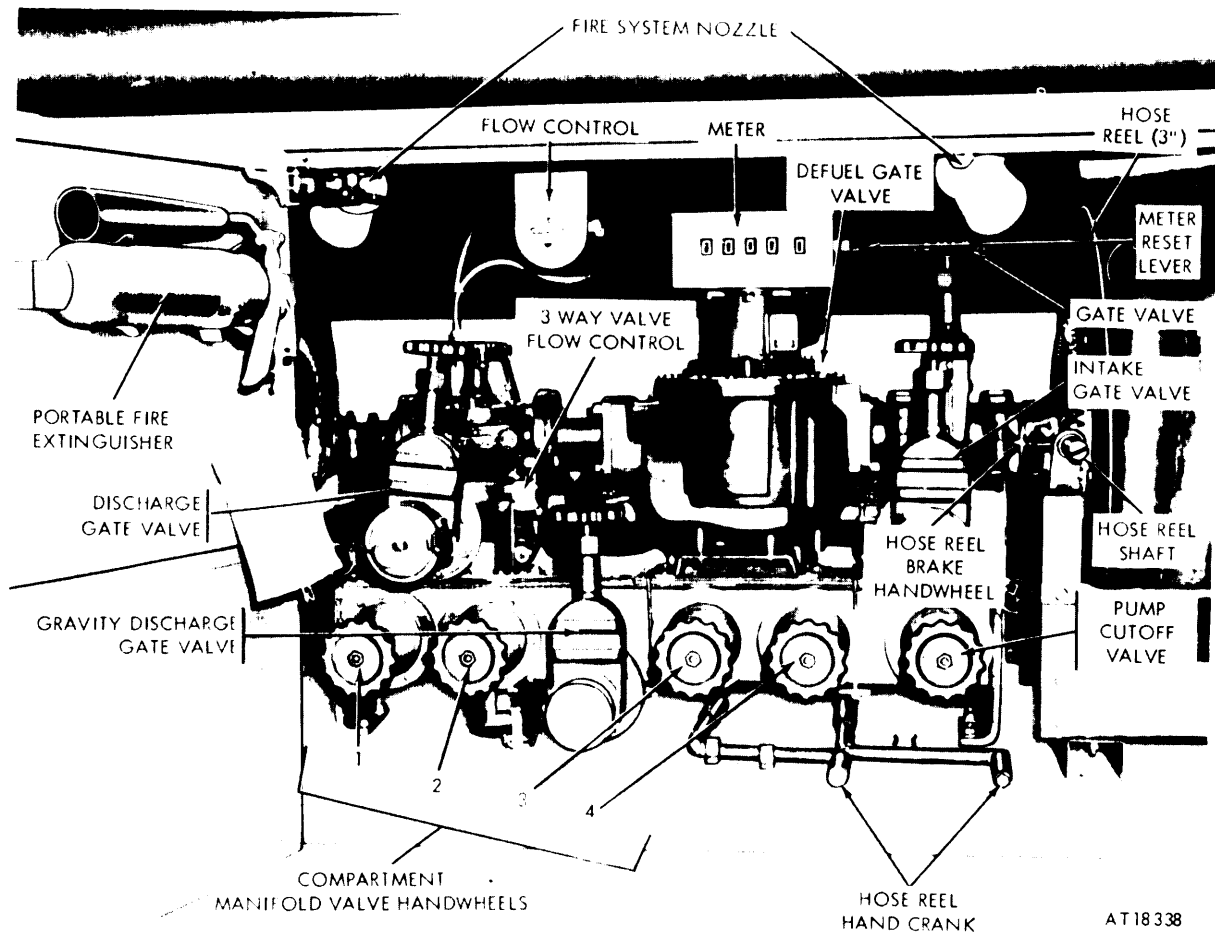

Figure 2-12. Rearward roadside cabinet--M131A4C.
*o. Hose Reel Brake Handwheels* (fig 2-12). These handwheels are used to apply braking pressure to the hose reel drums when unwinding the hose. Turning the handwheels clockwise applies pressure and turning counterclockwise releases it.
*q. Rate-of-Flow Selector Value* (fig 2-12 and 2-16). This valve is used for selecting and maintaining a specific fuel flow rate through the 0-55-gpm fuel dispensing system. The rate-of-flow selector valve is opened and closed by the rate selector knob. Some selector valves are equipped with a read-out rate-of-flow selector dial. The selector valve must be closed when the semitrailer is in transit. If the valve is equipped with a read-out rate-of-flow dial, set the dial at zero.